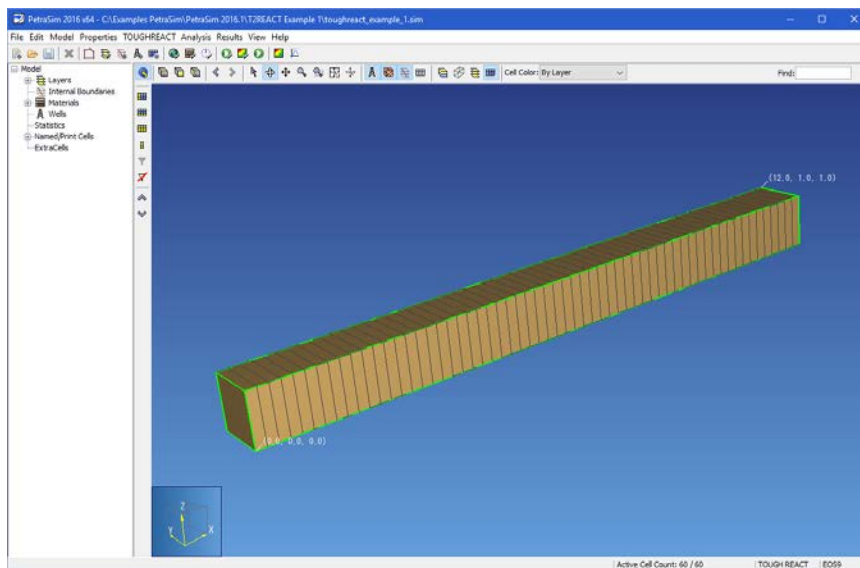

Figure 2: After creating the mesh
4. Click **OK** to create the mesh (Figure 2).